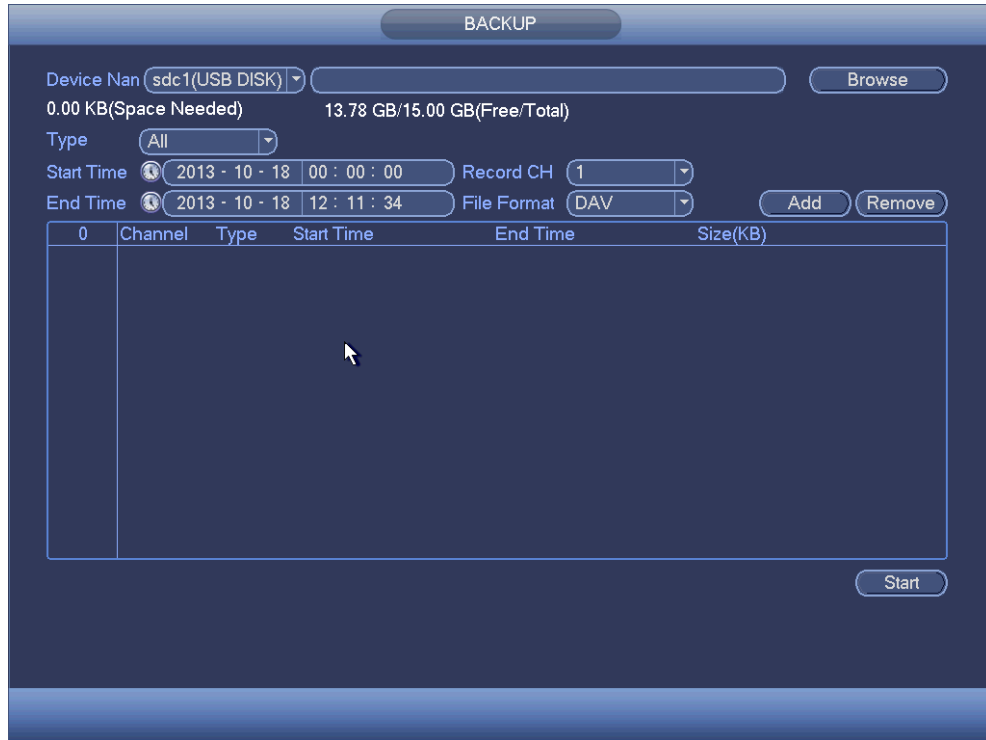

Figure 4-84
- b) From Main menu->Backup, you can go to the Backup interface. See Figure 4-84